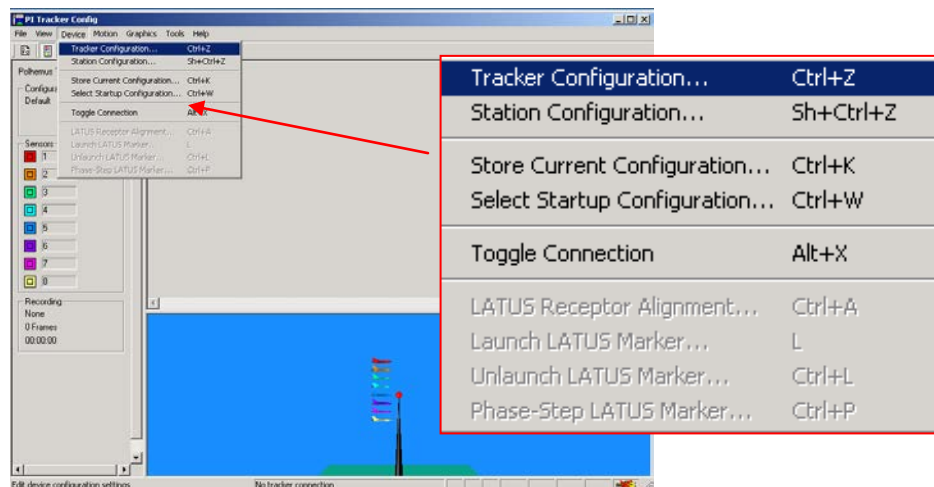

Figure 1-29: PiMgr Device Menu – Tracker Configuration
1.5.4 If you want to create an RS-232 connection, first configure the serial port settings by opening the *Tracker Configuration* dialog. Open this dialog via the *Device* menu: **Device**⇒**Tracker Configuration...**(see Figure 1-29), or use the **‘^Z’ – Read Operational Configuration** shortcut (see page 114).
With the dialog displayed, select the *Connection* tab as shown in Figure 1-29. Select the **RS-232** Connection Type on the left, and the appropriate **RS-232 Properties** on the right. Click **OK**.